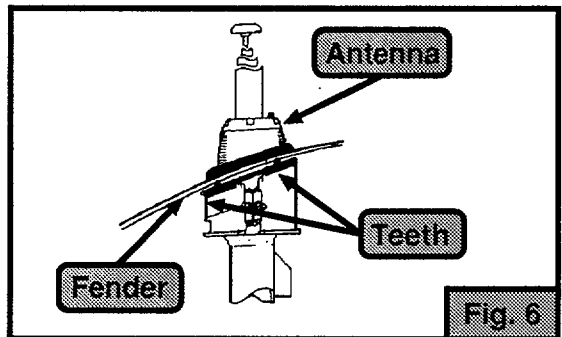

Fig. 6
6. Check to make sure that the teeth on the antenna spacer grommet make good contact with the inner fender well (Fig. 6).